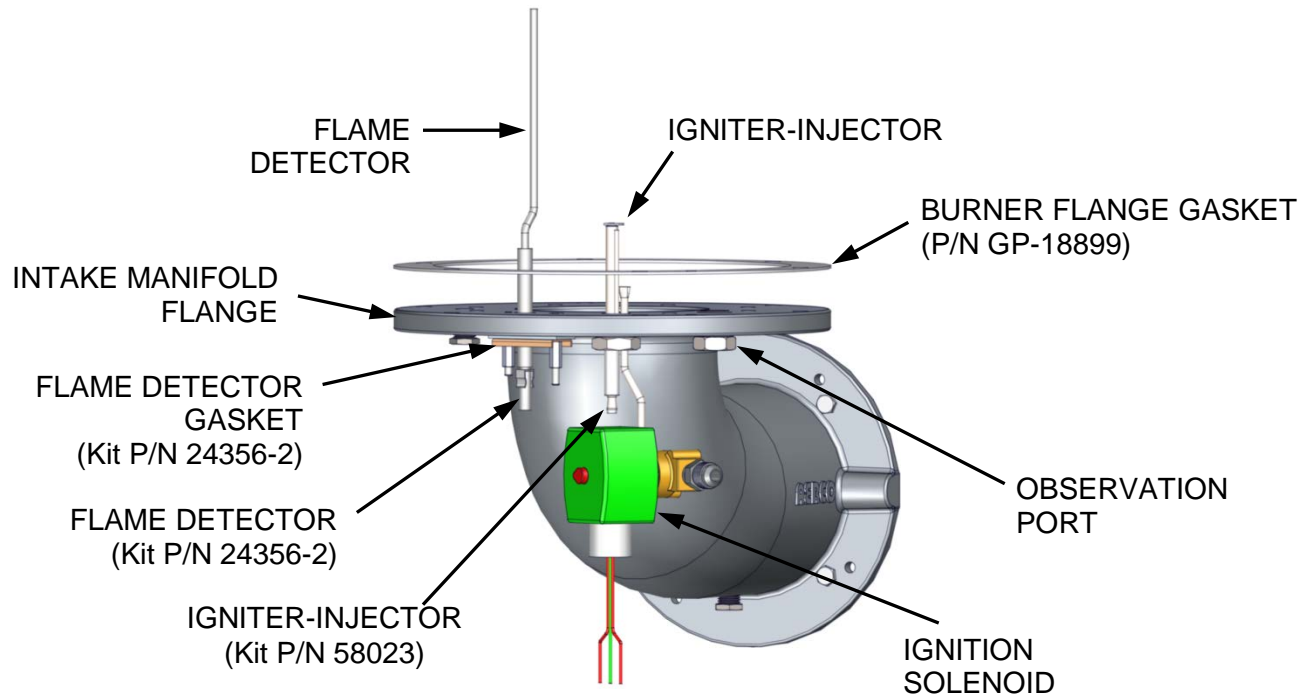

Figure 6-1. Intake Manifold with Igniter-Injector & Flame Detector
The igniter-injector (Kit P/N **58023**) is located on the flange of the intake manifold, at the bottom of the unit's heat exchanger. Figure 6-1 shows the intake manifold (removed from the heater) showing the location of the igniter-injector, flame detector and gasket (Kit P/N **24356-2**) and related components.
4. Refer to Figure 6-1. Disconnect the compression nut securing the gas injector tube of the igniter-injector to the elbow of the ignition assembly. Disconnect the ignition assembly from the igniter-injector.
Flame detector (Kit P/N **24356-2**) is used on ALL Innovation Hot Water Boiler models. The flame detector is also located on the flange of the intake manifold as shown in Figures 6-1 and 6-2. The flame detector may be hot. Allow the unit to cool sufficiently before removing the flame detector.
4. Remove the two (2) hex standoffs securing the flame detector to the intake manifold (Figures 6-1 and 6-2). The flame detector is secured to the burner intake manifold with one (1) #10-32 and one (1) #8-32 hex standoff.
6. Remove the two (2) hex standoffs securing the flame detector to the intake manifold (see Figures 6-1 and 6-2).
8. Disconnect the cable from the igniter-injector, loosen the compression nut and elbow from the gas injector tube (Figure 6-1), and remove the entire ignition assembly (nut/elbow, solenoid valve, hose nipple, and gas flex hose) from the manifold flange.